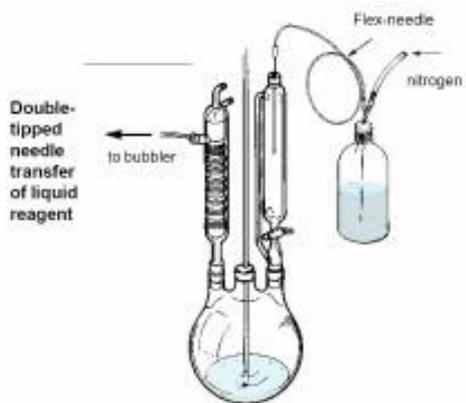

Fig. 3A Double-tipped needle transfer of liquid reagent
- Pressurize the Sure/Seal bottle with nitrogen and then insert the double-tipped needle through the septum into the headspace above the reagent. Nitrogen will pass through the needle. Insert the other end through the septum at the calibrated addition funnel on the reaction apparatus. Push the needle into the liquid in the Sure/Seal reagent bottle and transfer the desired volume. Then withdraw the needle to above the liquid level. Allow nitrogen to flush the needle. Remove the needle first from the reaction apparatus and then from the reagent bottle. (Fig. 3A)